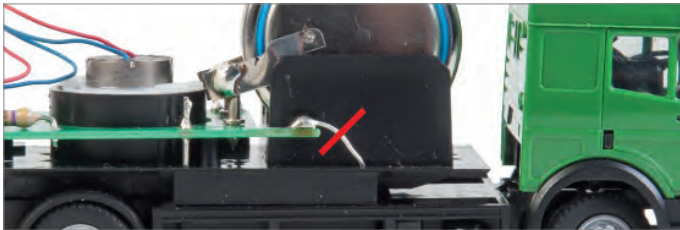

Abb. 24: Cut the reed sensor
- ▶ Use a wire cutter to disconnect the connection to the reed sensor, taking care to leave the wire as long as possible; see Abb. 24.